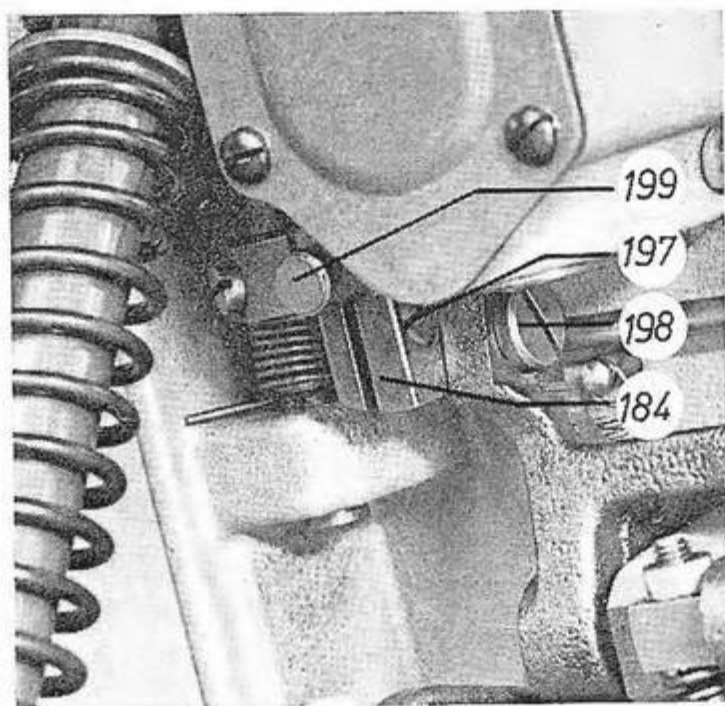

Fig. 24
18.1. Adjusting the block 184 (fig. 24) on the lifting bar